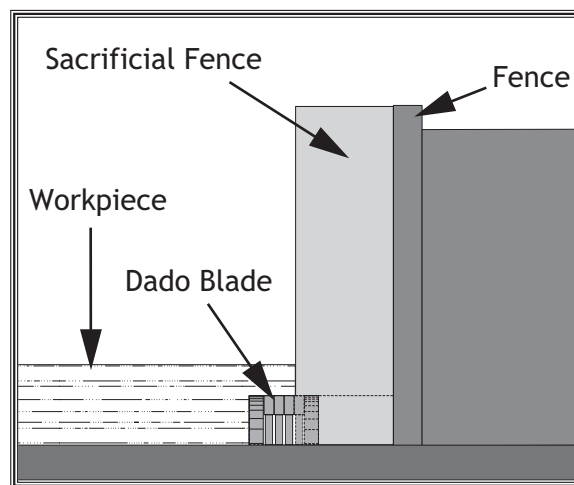

Figure 49. Rabbet cutting with a dado blade.
3. Adjust the fence and align the workpiece to perform the cutting operation as shown in **Figure 49**.